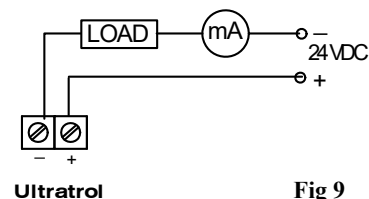

Fig 9
- Open the enclosure cover and wire transmitter to power supply 24VDC + 10 % with **correct polarity** by using 2 core screen cable and its output 4-20 mA can be used further to interface with PLC or SCADA. (fig 9)